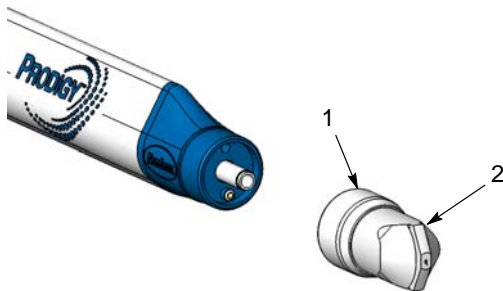

Figure 2 Removing Nozzle Assembly
4. See Figure 2. Unscrew the retaining nut (1) and remove the nozzle assembly from the spray gun to prevent damaging it while you are working on the gun.
12. See Figure 2. Install the air cap assembly and tighten the retaining nut (1).